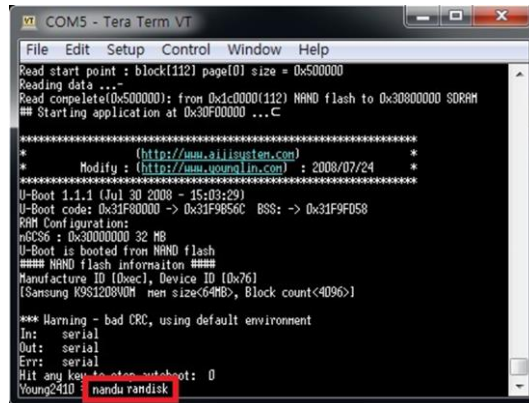

Figure 14. Tera Term - 'handw ramdisk' command
16. When the 'zImage' file writing is done, enter the 'nandw ramdisk' as shown in Figure 14 and press 'Enter' key.